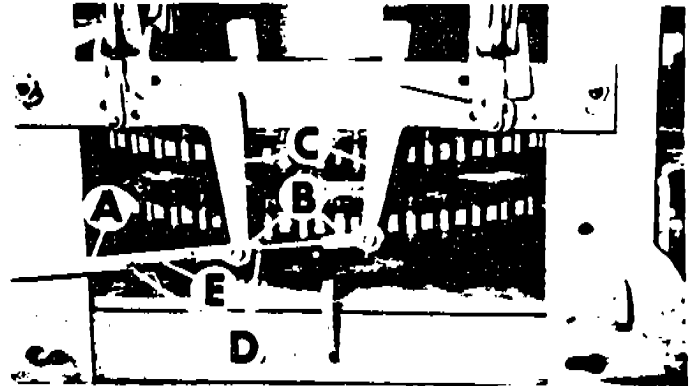
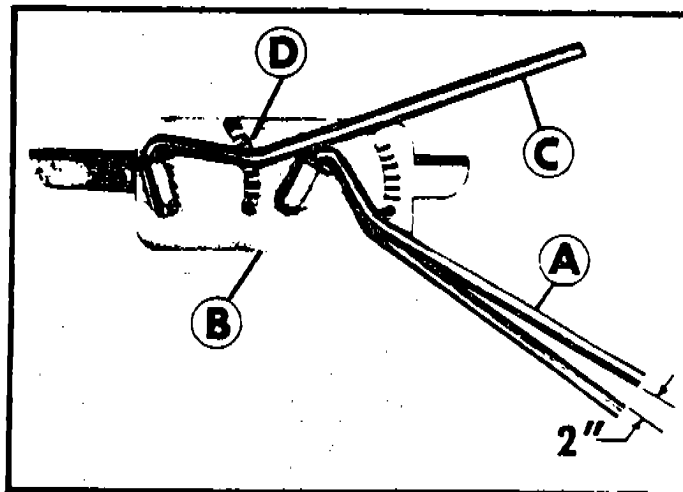
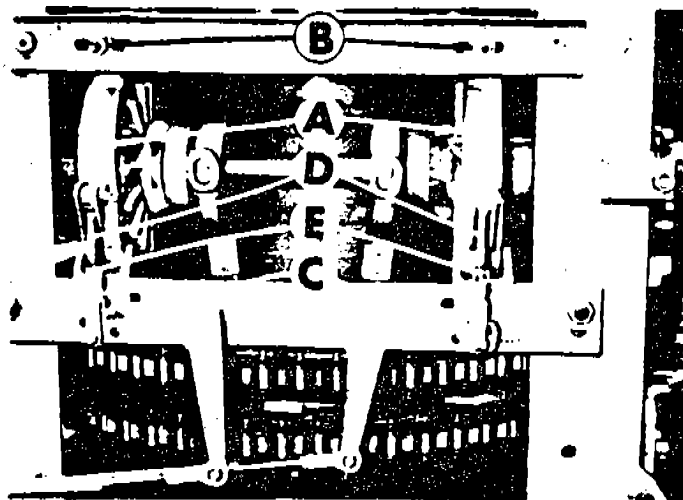

FIG. 2
FIG. 3
FIG. 4
The clutch control rods (A) Fig. 2 are adjusted by removing the clutch control rod ends (B) from the levers (C) and, with the control handle (A) Fig. 3, on the control stand (B) in a position about two inches from the extreme back position as shown in Fig. 3 and with the clutch engaged, release the lock nuts (D) Fig. 2, adjust the clutch control rod end studs (E) in or out until the rod ends (B) align with the pins on lever (C). Complete the adjustment by mounting the rod ends (B) on the pins on levers (C) inserting the cotter keys and tightening lock nuts (D).
The brakes (A) Fig. 4 are adjusted by means of the nuts (B). The adjustment should be such that, with the control handle (C) Fig. 3 in the center segment of ratchet (D), the brakes are set. As the brakes wear and no further adjustment can be made with nuts (B), further adjustment may be made by disconnecting clevis (C) Fig. 4 and unscrewing it on brake rod (D). However, when this adjustment is employed, never go beyond the point where less than four or five threads of the brake rod (D) are engaged in the clevis (C). When the adjustment is completed, be sure to tighten lock nut (E). Replace the brake lining on the band before the rivets score the drum.